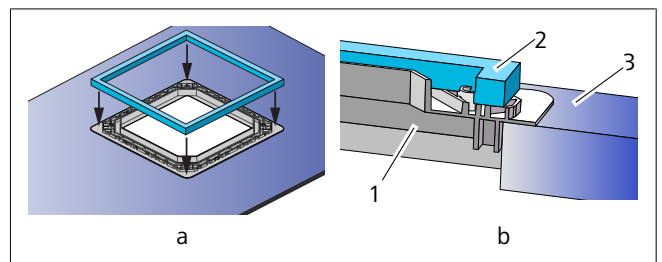

Fig. 13 Mounting the gasket on an adapter frame (400 x 400 cut-out)
1. Peel off the backing paper and stick the gasket to the adapter frame (400 x 400 cut-out). See Fig. 13-a and b.